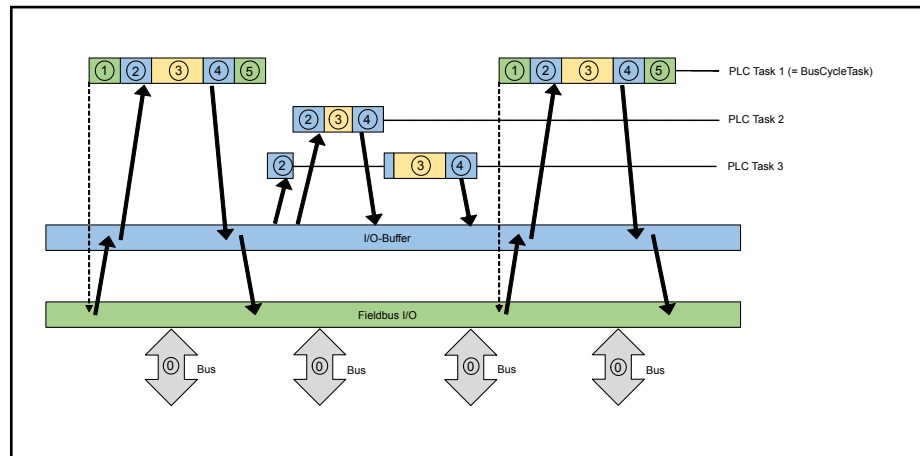

Fig. 4-17: Schematic diagram of the bus cycle task
¹⁾ I.e. If "Enabled 2" is selected, it is always copied between PLC I/O data and I/O buffer in the bus cycle task and not in the task using I/O data, see ② and ④ in fig. 4-17 "Schematic diagram of the bus cycle task" on page 34.